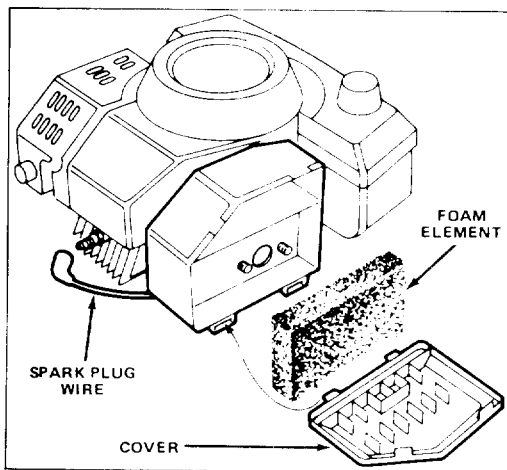

Figure 3
1. Stop engine. Pull wire off spark plug (Fig. 3).
2. Lift tabs at top of air cleaner cover and pivot cover down. Clean cover thoroughly (Fig. 3).
3. If outside of foam element is dirty, remove it from air cleaner body (Fig. 3). Clean thoroughly.